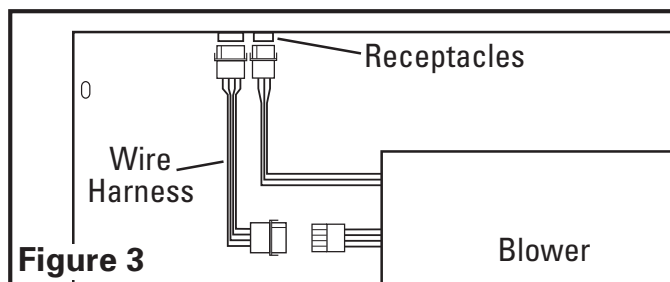

Figure 3
3. Plug the 3 wire quick connect cord from the blower into the receptacle on the range hood canopy. Plug the 4 wire quick connect cord from the blower into the one end of the wiring harness then connect the other end of the wiring harness to the receptacle in the range hood canopy. These cords will only fit into the receptacles one way (**Figure 3**).
4. Plug the 3 wire quick connect cord from the blower into the receptacle on the range hood canopy. Plug the 4 wire quick connect cord from the blower into the one end of the wiring harness then connect the other end of the wiring harness to the receptacle in the range hood canopy. These cords will only fit into the receptacles one way (**Figure 3**).